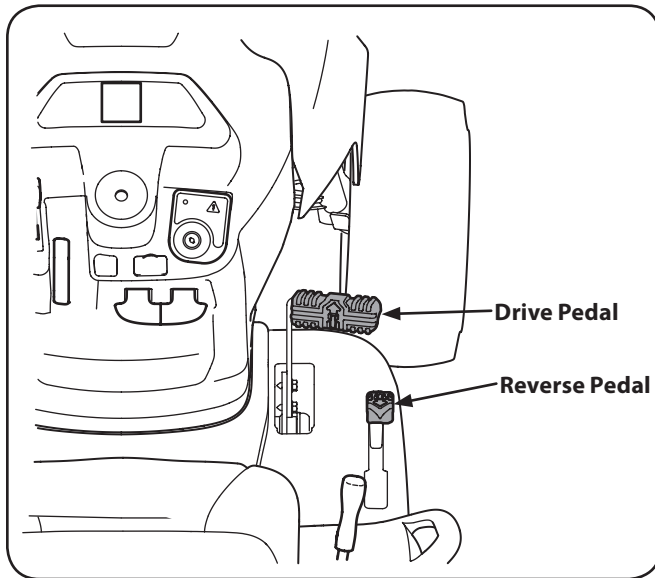

Figure 5-1
2. To travel FORWARD, slowly press the upper portion of the drive pedal forward until the desired speed is achieved. See Fig. 5-1.
To travel in REVERSE, check that the area behind is clear then slowly depress the lower portion of the drive pedal with the ball of your foot (NOT your heel) until the desired speed is achieved. See Fig. 5-1.